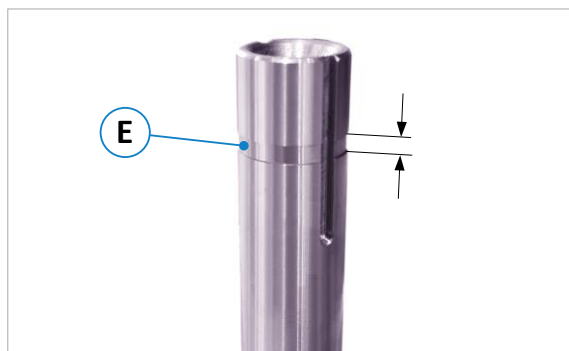

Figure 19: Marking for upper spacer ring
1. Loosen the clamping screw (S) on the quick-release nut (M) with the supplied SW4 pin spanner.
2. Then fully tighten the fixing screw (F) by hand and remove the quick-release nut (M) by taking it out.
3. Remove the spacer rings (D) and put on the new cutter head.
4. Put on the required spacer rings (D), if necessary. Place enough spacer rings so that the upper clamping surface of the upper ring is in the area (E) of the marking groove shown in ⇒ Figure 19.
5. Then put the quick-release nut (M) back on and tighten the fixing screw (F) by hand.
6. Now tighten the clamping screw (S) with the SW4 pin spanner → Tightening torque = **12 Nm**.